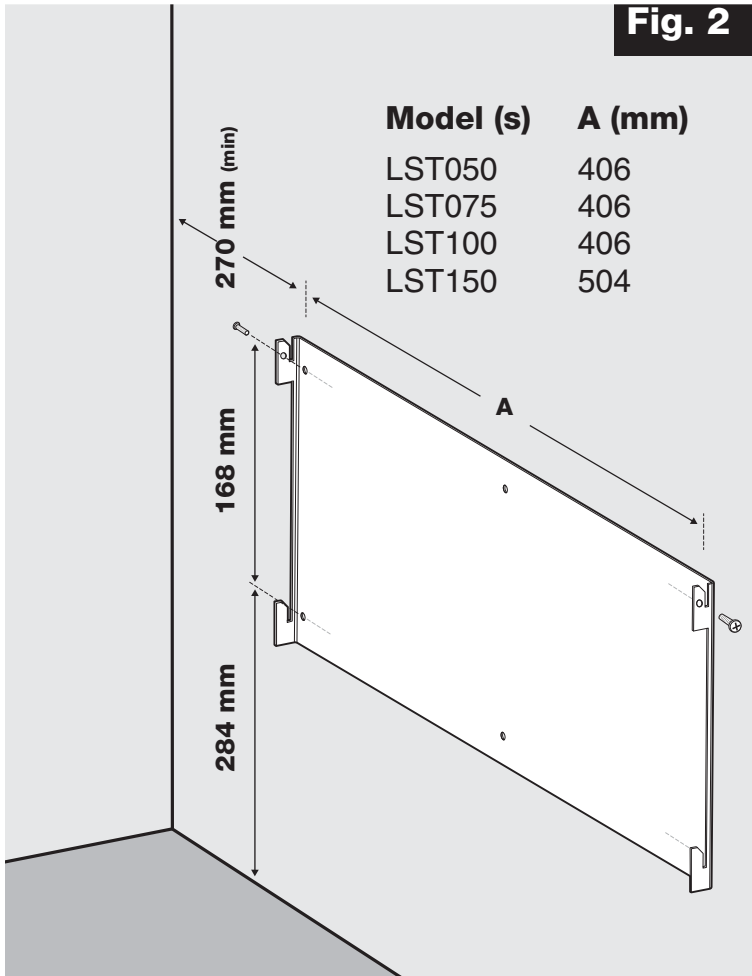
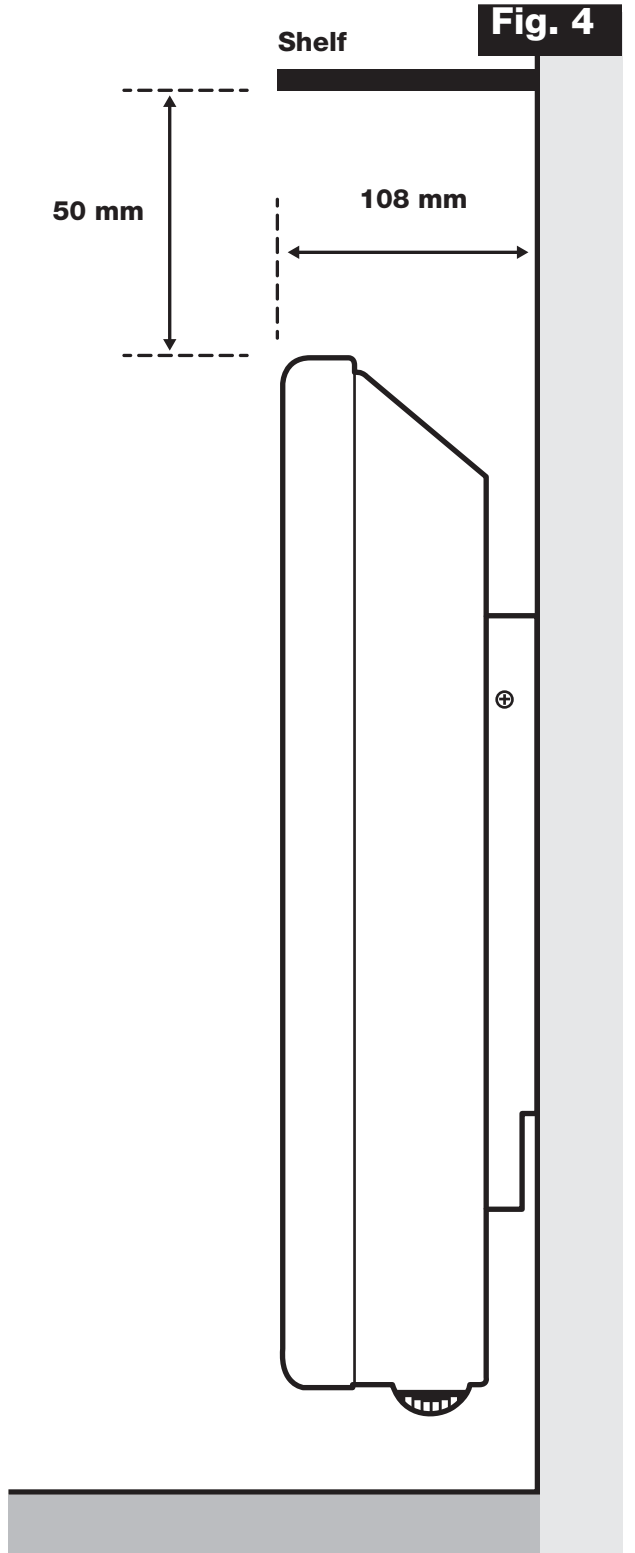
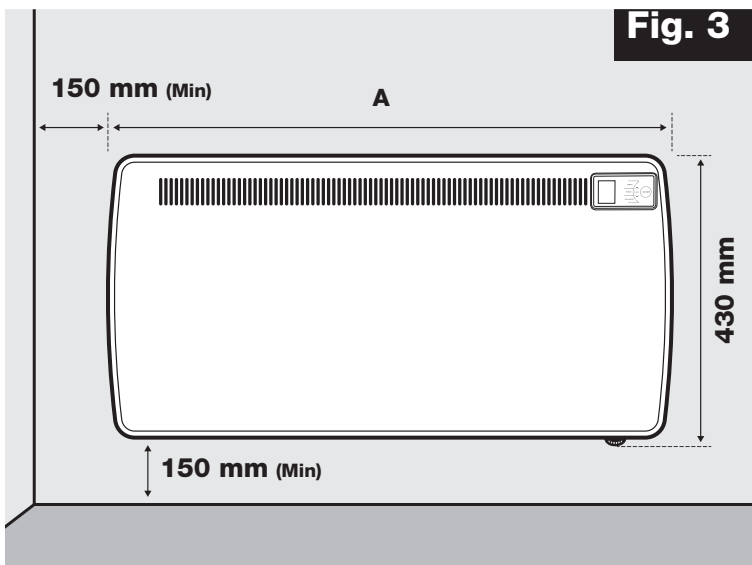

Fig. 2
Fig. 4
Fig. 3
The heater is designed for wall mounting using the wall bracket supplied. It should only be operated when in the upright position as shown - see **Fig. 3** and **Fig. 4**. All models are splash proof to IP24 standard and may be used in bathrooms, however not in the immediate vicinity of baths, showers, water connections, wash basins or swimming pools. Before connecting the heater check that the supply voltage is the same as that stated on the heater.
IMPORTANT – The wall bracket supplied with the appliance must be used. The heater should be positioned observing the minimum clearances stated around the heater - see **Fig. 2, Fig. 3** and **Fig. 4**.
2. Fix the wall bracket securely to the wall through the four screw holes provided see **Fig 2**.
see Fig. 3